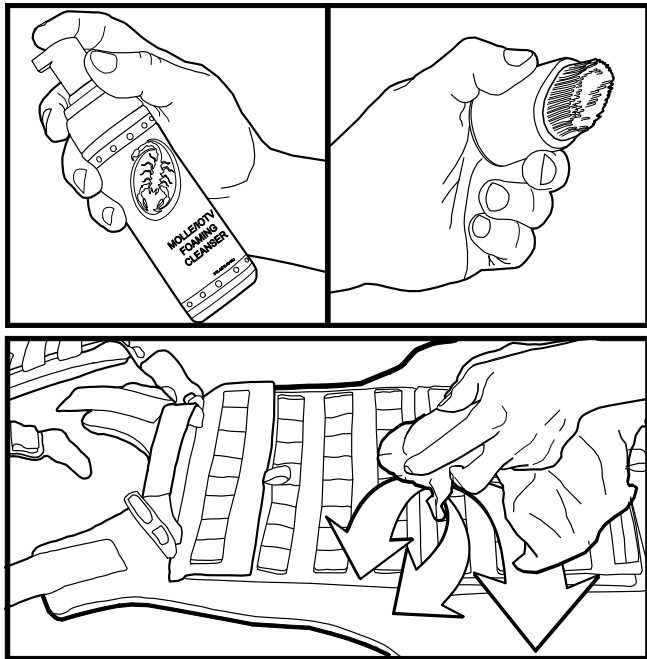

Figure 17. Cleaning IOTV.
- Apply foaming cleanser (issued with IOTV) to stain and scrub using applicator head (Figure 17). If foaming cleanser is not available, use a mixture of mild detergent and water and scrub with a soft bristle brush.